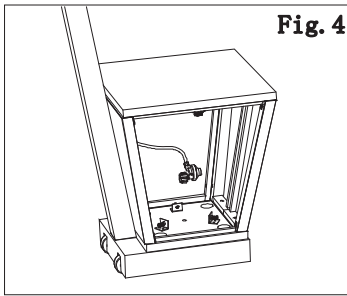

Fig. 4
1. Open the door and control valve outside. See Fig 4.